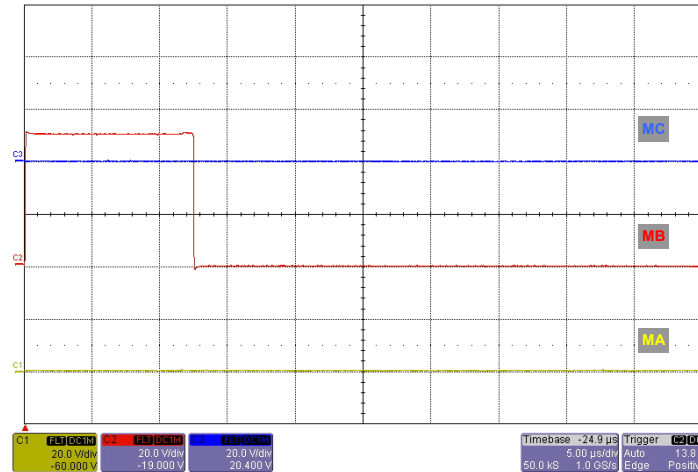

Figure 6. Waveforms on MA, MB, and MC with HB Grounded
- While the HB input is grounded, observe the following waveforms on the MA, MB, and MC terminals. As the example in Figure 6 shows, there should be no switching disturbances on MC and MA.